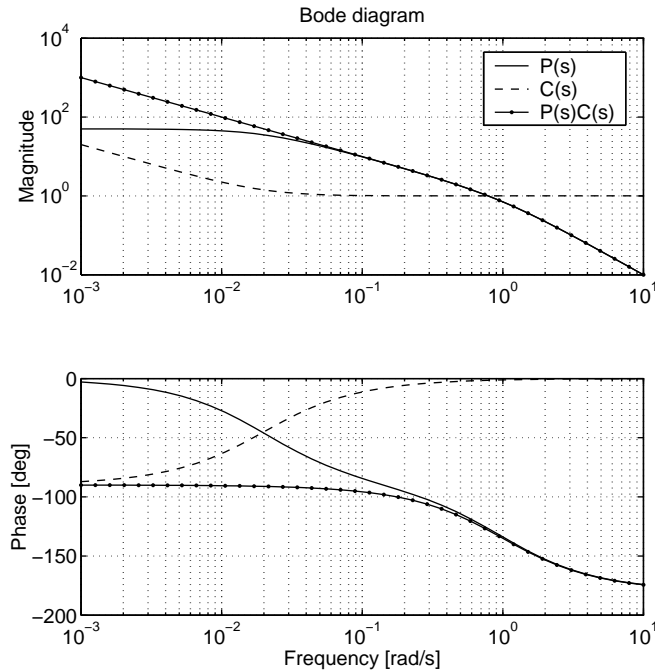

Figure 4.3 The Bode diagrams of $P(s)$, $C(s)$ and the open loop $P(s)C(s)$ when $a = 0.02$.
with $a = 0.02$, but the resulting control system reacts extremely slowly to step disturbances in d . The reason is that the slow pole in -0.02 is canceled by the controller zero. The Bode diagrams of the plant, the controller, and the open-loop system are shown in Figure 4.3.
- a. The load disturbance d is typically most significant at low frequencies, so we are interested in keeping the magnitude of the transfer function G_{yd} from d to y significantly smaller than 1 in a frequency range $[0, \omega_b]$. What is (approximately) ω_b if you use the given controller? Use the Bode diagram in Figure 4.3.